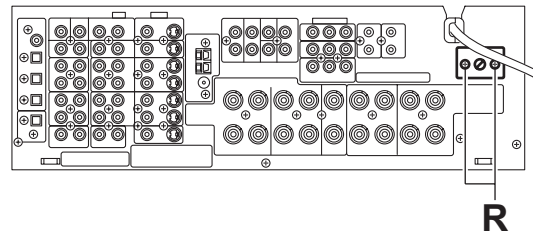

Fig.13
### 3.11 Removing the voltage selector board (See Figs.13 and 14)
- (1) From the back side of the main body, remove the two screws **R** attaching the voltage board. (See Fig.13)